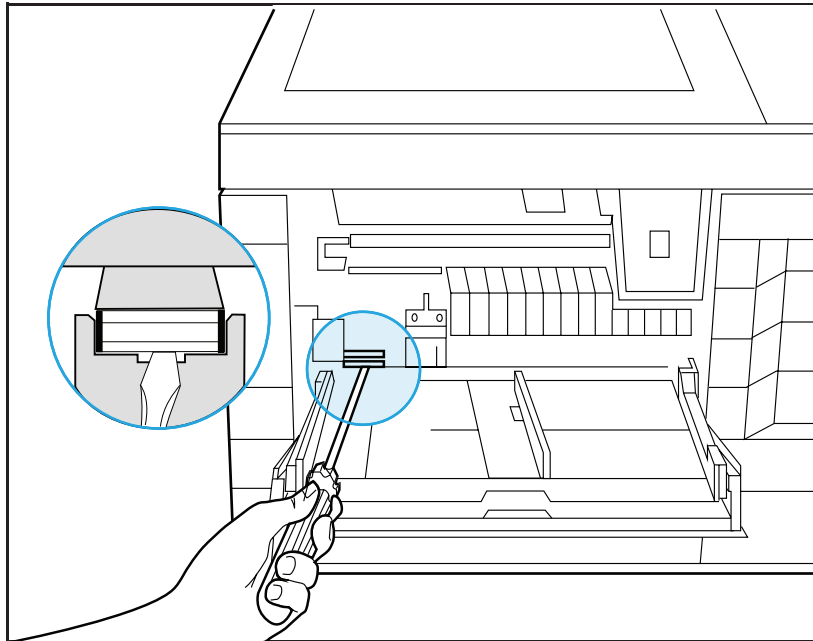

Figure 4-6 Removing the MP Tray (Tray 1) Separation Pad
- 4 Insert a small screwdriver into the indent at the front of the separation pad and gently lift the pad from its seat (see Figure 4-6).